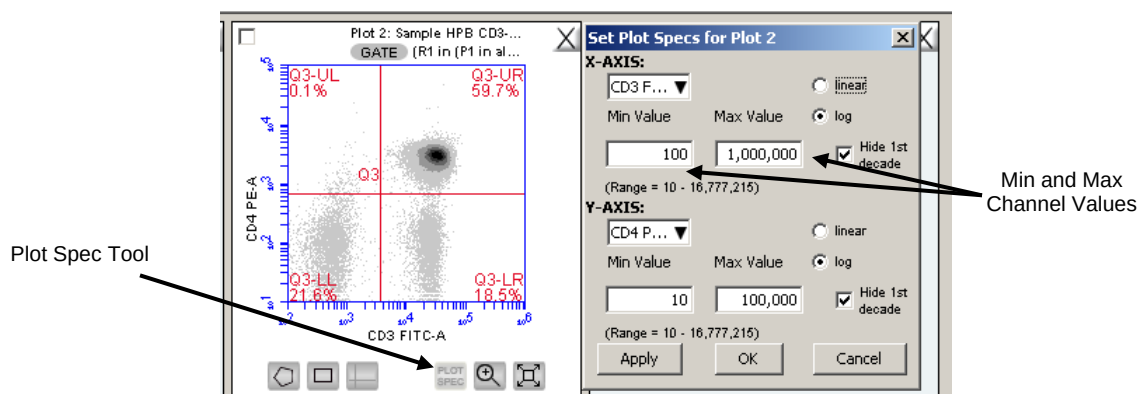

Figure 3-36 Setting Min and Max channel values for the X and Y axes using the Plot Spec dialog box.
2. Click on the Plot Spec Tool under Plot 2 (Figure 3-36).